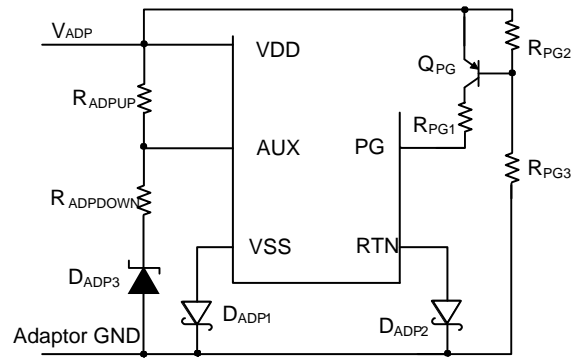

Figure 6: Wall Adapter Detection Circuit
When an auxiliary power source, such as a wall power adapter, is used to power the device, the divider resistors  $R_{ADPUP}$ ,  $R_{ADPDOWN}$ , and  $D_{ADP3}$  must be chosen to satisfy Equation (1) for correct wall power adapter detection (see Figure 6).
The MP8008 enables wall adapter detection at  $VDD = 11.5V$ . If one adapter power with a lower voltage rating (such as 10V) is used to power the converter, one external PG pull-up resistor is necessary to enable the downstream DC/DC converter. Refer to Figure 6 and the following Power Good (PG) section for more detail.
If one adapter power lower than 11.5V is connected to supply the converter, the PG function cannot work with such a low input. An external PG pull-up circuit is recommended (see Figure 6). Typically,  $Q_{PG}$  needs a  $V_{CE}$  voltage higher than 100V (such as BSS63LT1). Choose  $R_{PG2} = 7.5k\Omega$  and  $R_{PG3} = 100k\Omega$  for a 12V adapter with some margin of adapter regulation. Choose  $R_{PG1} = 100k\Omega$  to limit the PG sink current below 0.6mA when VDD is high.